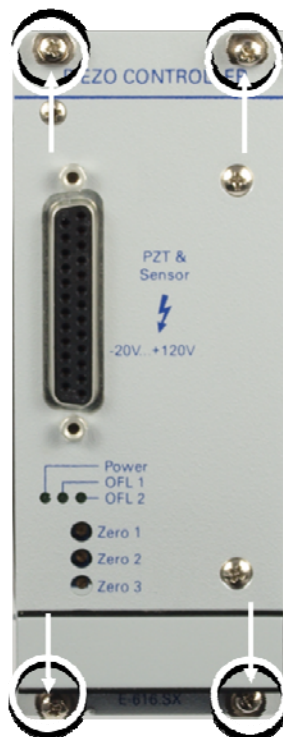

Figure 2: Front panel of E-616, arrows indicate where to tighten the front plate to an appropriate case
- 3 Fix the module to the front panel using the four included cross-head screws, see Figure 2 below